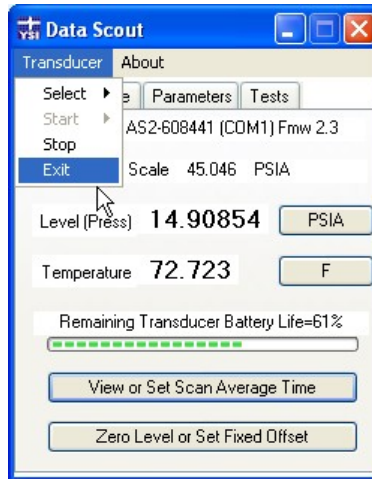

Figure 3.7
- By clicking **Transducer > Exit** (Figure 3.7).